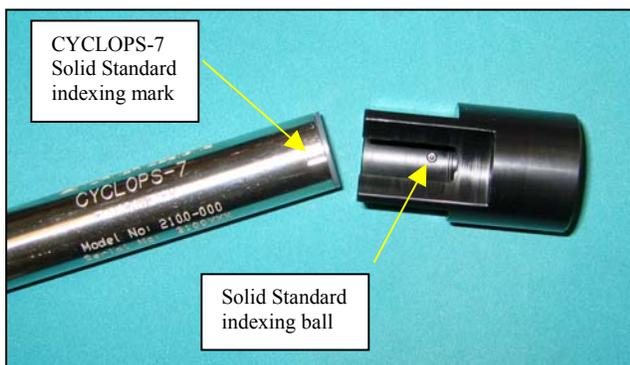

Figure 1.
1. Before installing the Solid Standard you must ensure that the optical surface of the CYCLOPS-7 is completely clean and dry. The Solid Standard is indexed and it must be installed so that the indexing is precisely aligned for proper use (see Figure 1).